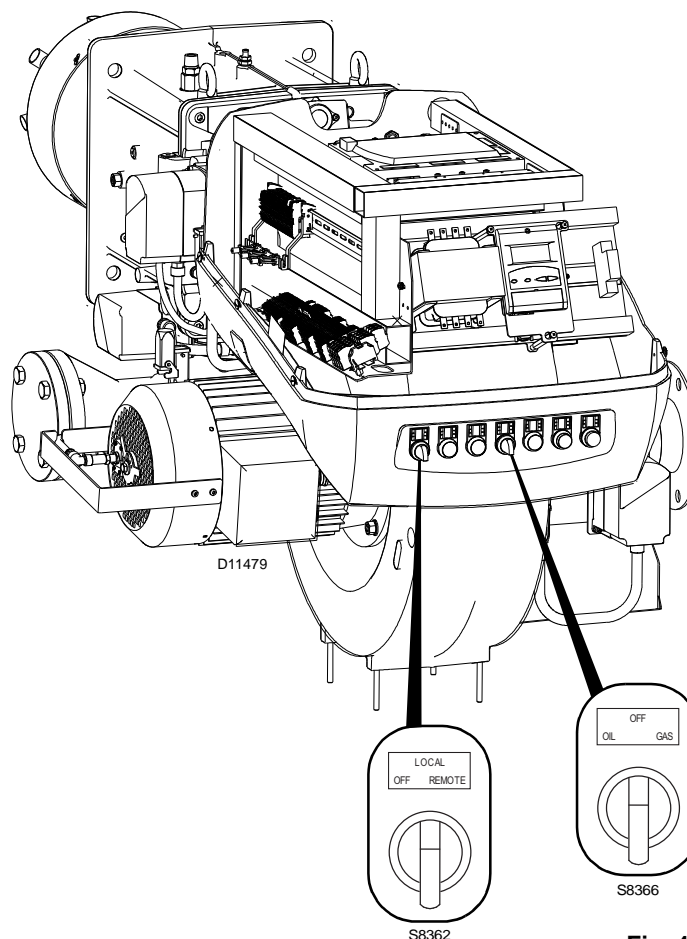

Fig. 47
Turn the switch to position “LOCAL” and turn the switch to position “OIL” for oil operation and “GAS” for gas operation (Fig. 47).
When the burner starts, check the direction of the motor rotation, as indicated in Fig. 47.
- place the switch of Fig. 47 in position “OFF” and wait for the control box to carry out the switch-off phase;